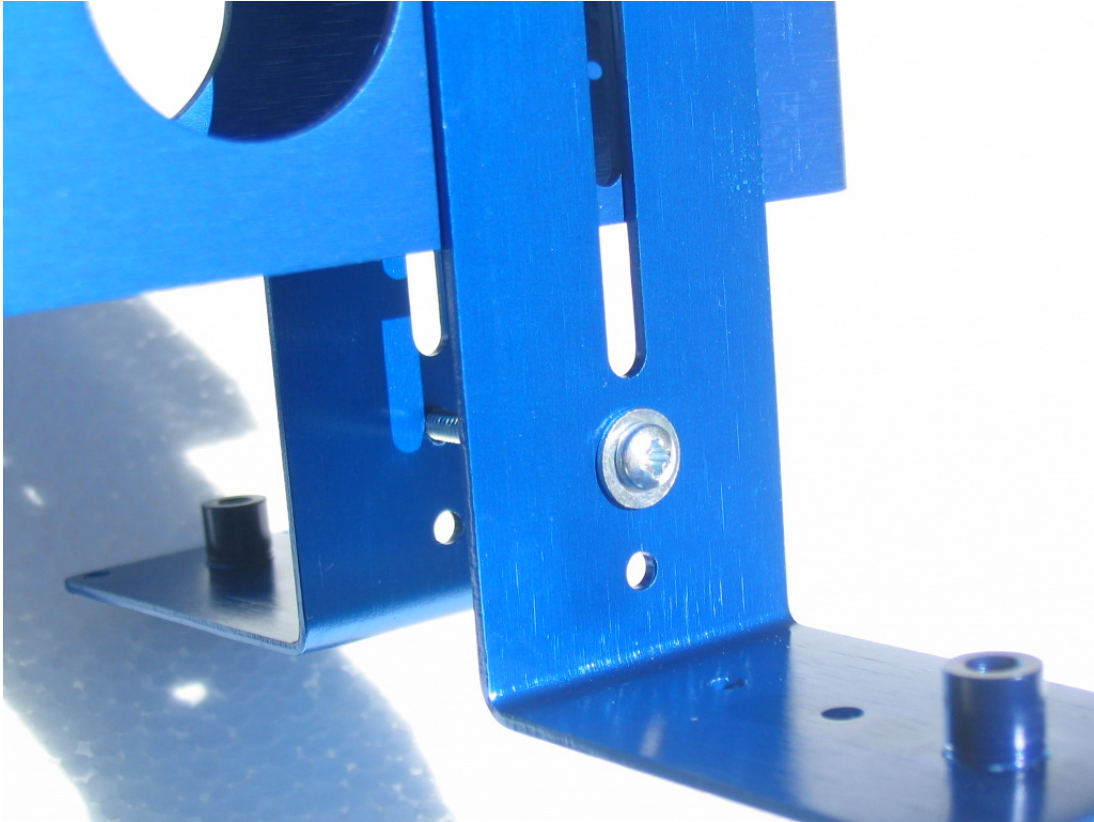

Figure 17b
- Using (1) #4 – 1.5” screw, (2) washers and a lock nut, secure the (2) servo brackets using the upper hole of the (2) holes as shown in figure 17b. Tighten the lock nut just enough so that it is up against the channel but loose enough so it can be turned by hand. Ensure that the screw does not bend the servo brackets.